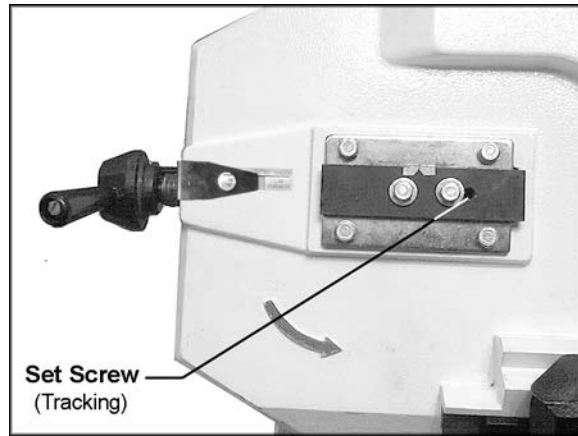

Figure 14
4. Start the saw. Turn the set screw (Figure 14) to tilt the idler wheel until the blade is touching the shoulder of the idler wheel.
5. Turn the set screw (Figure 14) so the blade starts to move away from the shoulder of the wheel; then immediately turn the set screw in the other direction so the blade stops; then moves slowly towards the shoulder. NOTE: This adjustment is sensitive; do it gradually and in small increments allowing the wheel to respond to the changes.